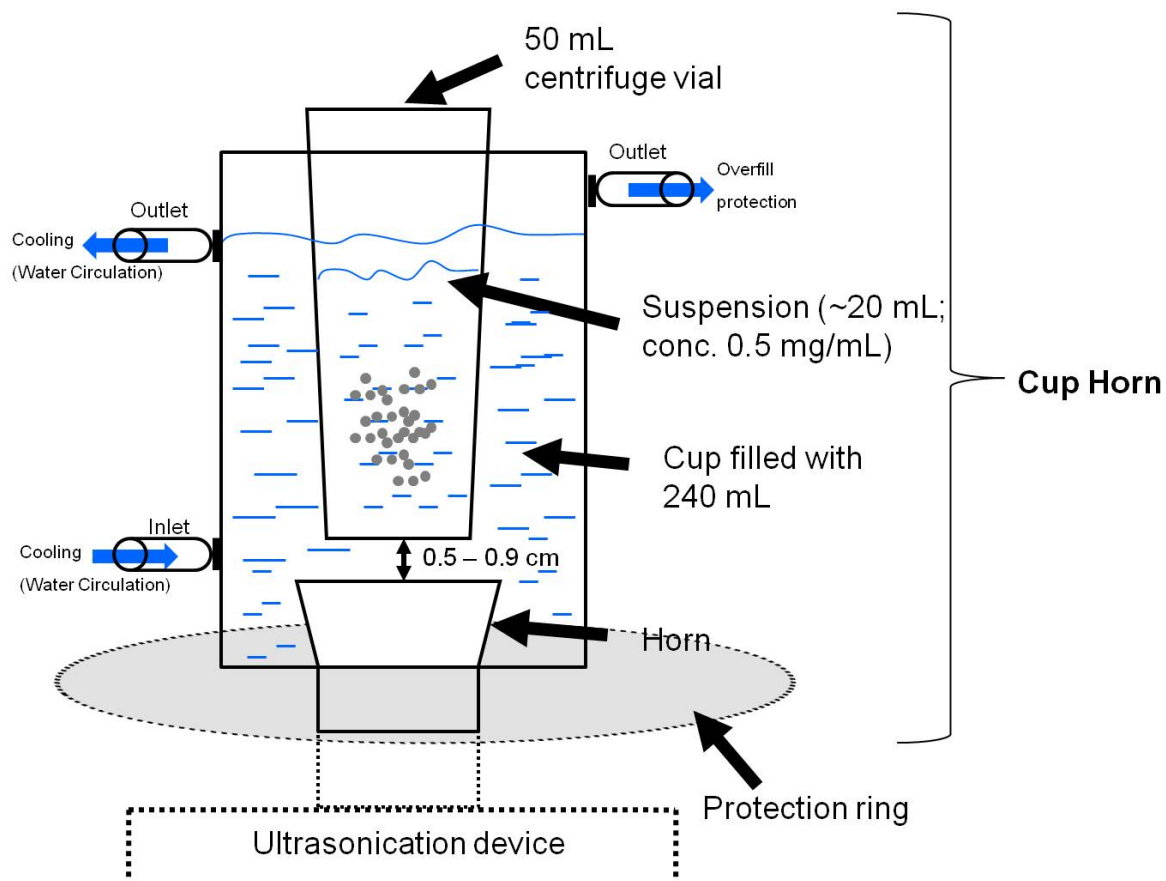

Figure 1. Scheme of the experimental setup (here for Bandelin Cup Horn BB6)
- a centrifuge vial is placed in the middle of the Cup Horn. The bottom of the centrifuge vial is placed 0.5 - 0.9 cm above the sonication unit (Figure 1)